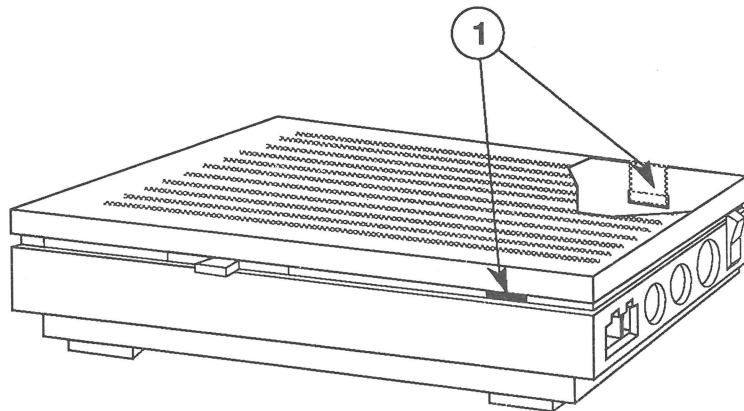

FIGURE 1
3. Locate the two locking tabs shown in Figure 1, #1.